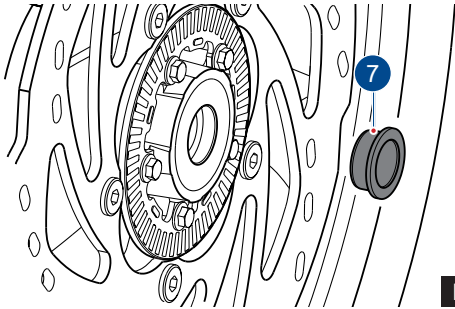

Fig. 63
- Take out the spacer bush (7) from the left side of the wheel hub (ref. Fig. 63).
- Loosen the mounting screw (8) and take out the speed sensor (9) from front suspension.
- Fix the spacer bush (7) on the left side of wheel hub (ref. Fig. 63).